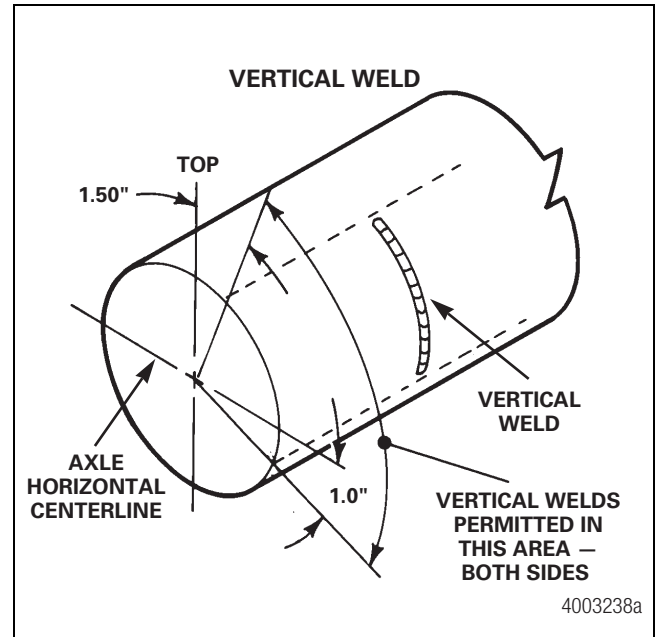

Figure 7.11
- Vertical welding is not allowed more than one-inch (25.4 mm) below the axle horizontal centerline. Figure 7.11.